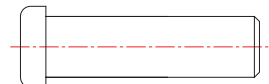

Fig. 14.13 The spindle drawing saved as Fig13.dwg
2. As a separate drawing, construct Fig. 14.13. Save it as a **wblock** with the name of **Fig13.dwg** and with a base insertion point at the crossing of its centre line with the left-hand end of its spindle.